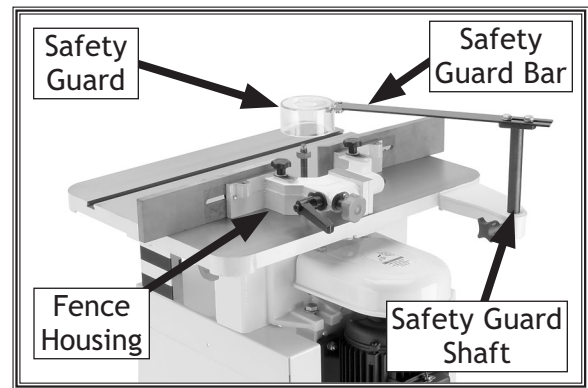

Figure 12. Guard and fence assembly.
9. Connect the safety guard bar to the safety guard shaft with two M8-1.25 x 12 bolts and the 8mm flat washers. See **Figure 12**.
10. Connect the safety guard to the safety guard bar with two M4-0.7 x 12 Phillips® head screws and the M4-0.7 nuts. See **Figure 12**.
11. Position the extension bar and safety guard on the main fence housing and install the T-lock handle. See **Figure 12**.